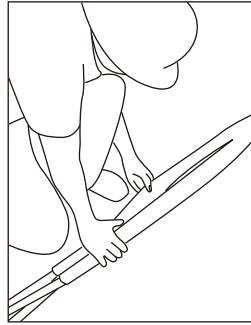

Fig. 8
5. Roll up Jacket tightly closing the hook and loop material securely around the Maxis® Grips (Fig 8).